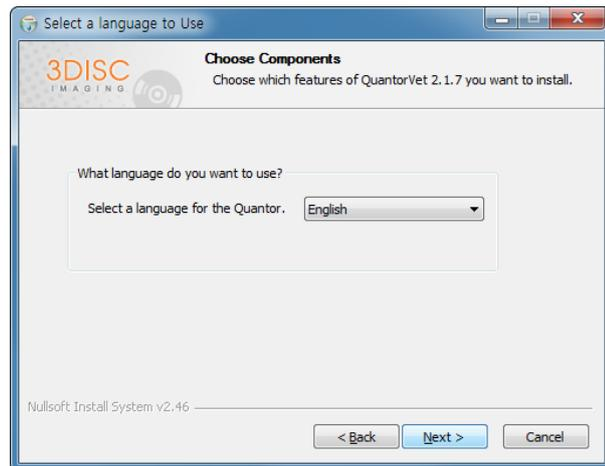

Figure 2.3 Components Dialog Box
- Choose your language and click the "Next" button as shown In Figure 2.3.